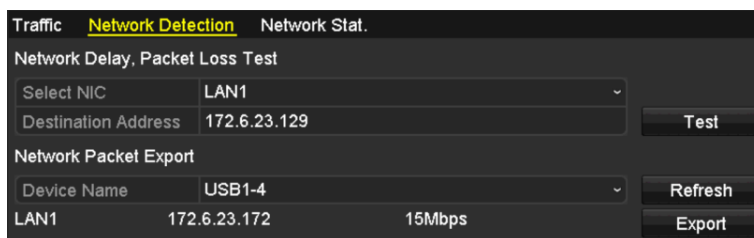

Figure 9-23 Export Network Packet
Step 3 Select the backup device from the dropdown list of Device Name, as shown in Figure 9-23.